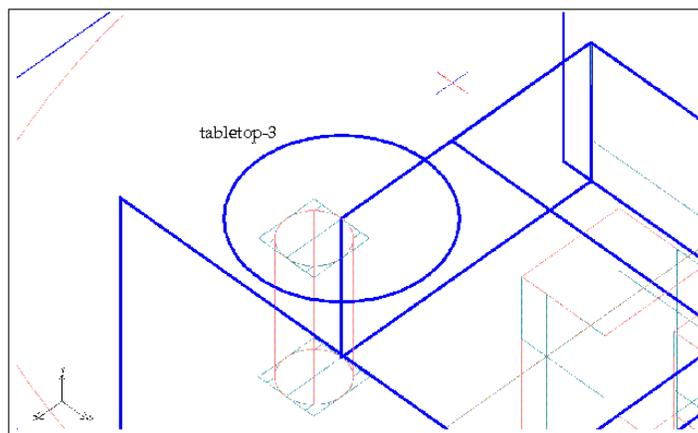

Figure 4.14: Close-Up View of the Circular Tabletop Object
- (b) Use the right mouse button to zoom into the CAD geometry representing the circular tabletop and the middle button to translate the view, as shown in Figure 4.14.
- ii. Using the left mouse button, click on the circle that comprises the tabletop (shown in Figure 4.14) in the graphics window.